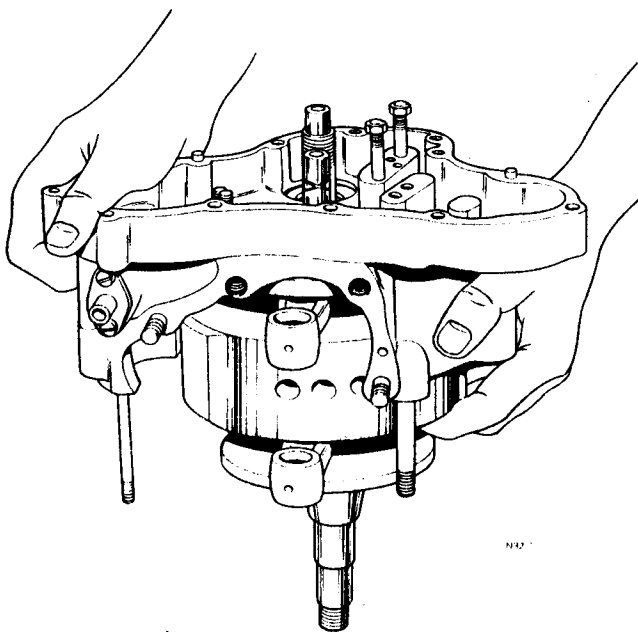

Fig. C35 Pushing timing side crankcase over crankshaft
- 1 Push the timing side crankcase over the crankshaft which must be supported upright on the bench. See *Fig. C35*. At this time check that the connecting rods clear the crankcase mouth of the crankshaft end of the bearing. If the bearing is too tight to push home over the crank, place a scrap main bearing inner race and a large washer over the crankshaft, outboard of the timing side crankcase then, using the oil pump driving worm on the crankshaft, pull it home through the bearing.